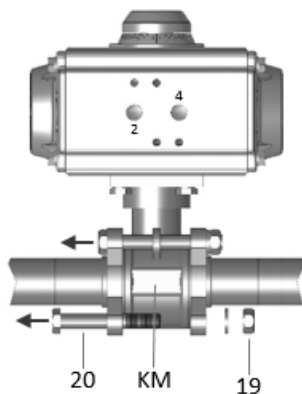

Figure 7: Mounting components
2. Unscrew nuts **19** completely, see Figure 7.